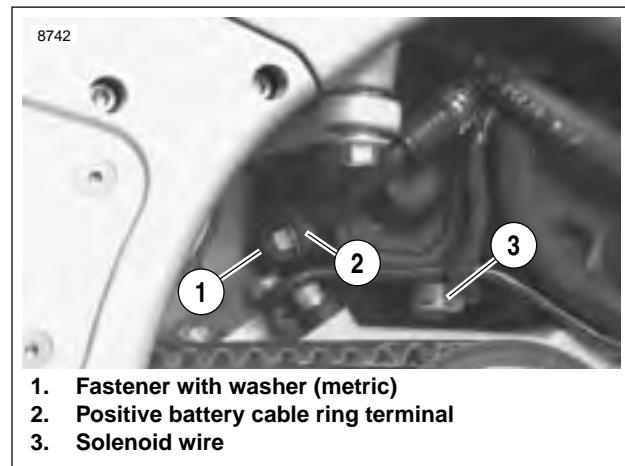

Figure 5-9. Starter Wires (Protective Boot Not Shown)
5. See Figure 5-9. Remove fastener with washer (1) (metric).
- b. Remove positive battery cable ring terminal (2).
- c. Detach solenoid wire (3).